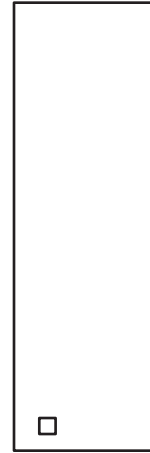

Fig. 13-4
7. In the lower left corner of the keyboard, draw a small square to represent a key, as shown in Fig. 13-4. (You may need to turn snap off first.)